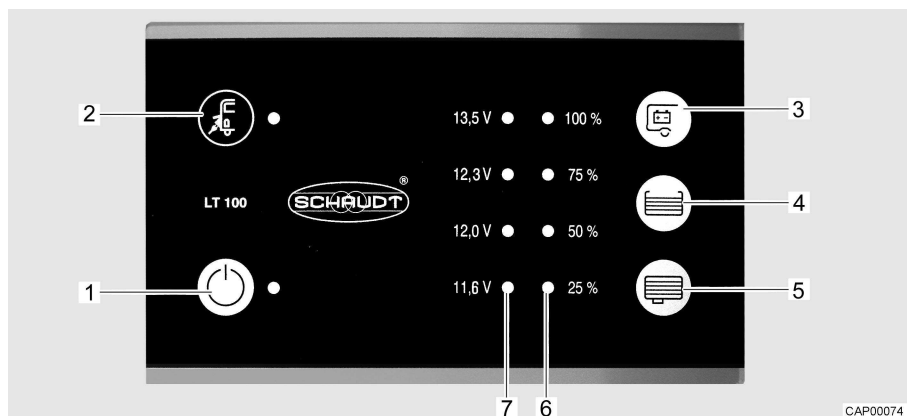

Fig. 69 Panel (LT 100)
The yellow LED at the mains connection symbol  (Fig. 69,2) is lit when the vehicle is connected to an external mains supply. In this case, the LED will also be lit when the panel is switched off.
The 12 V main switch (Fig. 69,1) switches the panel and the 12 V power supply of the living area on and off.
- Press switch "⏻" (Fig. 69,1): The 12 V living area power supply is switched on. The LED lights up green.
- Press switch "⏻" (Fig. 69,1) again: The 12 V living area power supply is switched off. The LED goes out.
The LED array (Fig. 69,7) displays the battery voltage of the living area battery as follows:
- Press "⏻" button (Fig. 69,3): The battery voltage of the living area battery is displayed.
The LED array (Fig. 69,6) displays the fill level of the fresh water tank or of the waste water tank.
- Press "  " button (Fig. 69,4): The fill level of the fresh water tank is displayed by lit LEDs.
- Press "  " button (Fig. 69,5): The fill level of the waste water tank is displayed by lit LEDs.